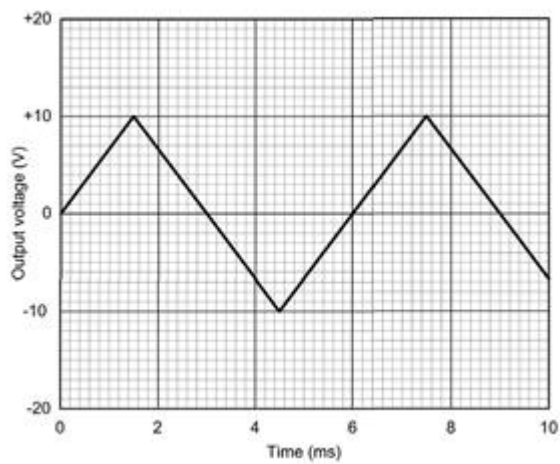

Figure 9.28 See Question 9.16
- 9.16 Design an oscillator circuit that will generate the output waveform shown in Fig. 9.28. Sketch a circuit diagram for the oscillator and specify all component values (including supply voltage). Give reasons for your choice of oscillator circuit.